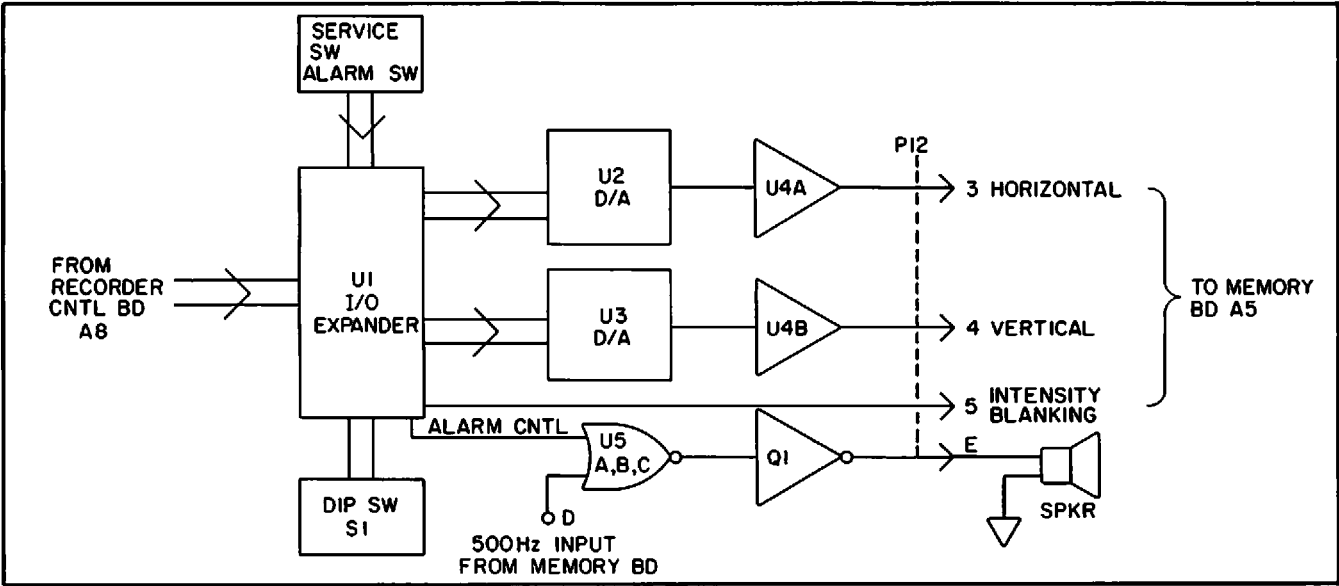

Figure 2-28
2.3.7.1 Heart Rate Circuit (Refer to Figure 2-28)